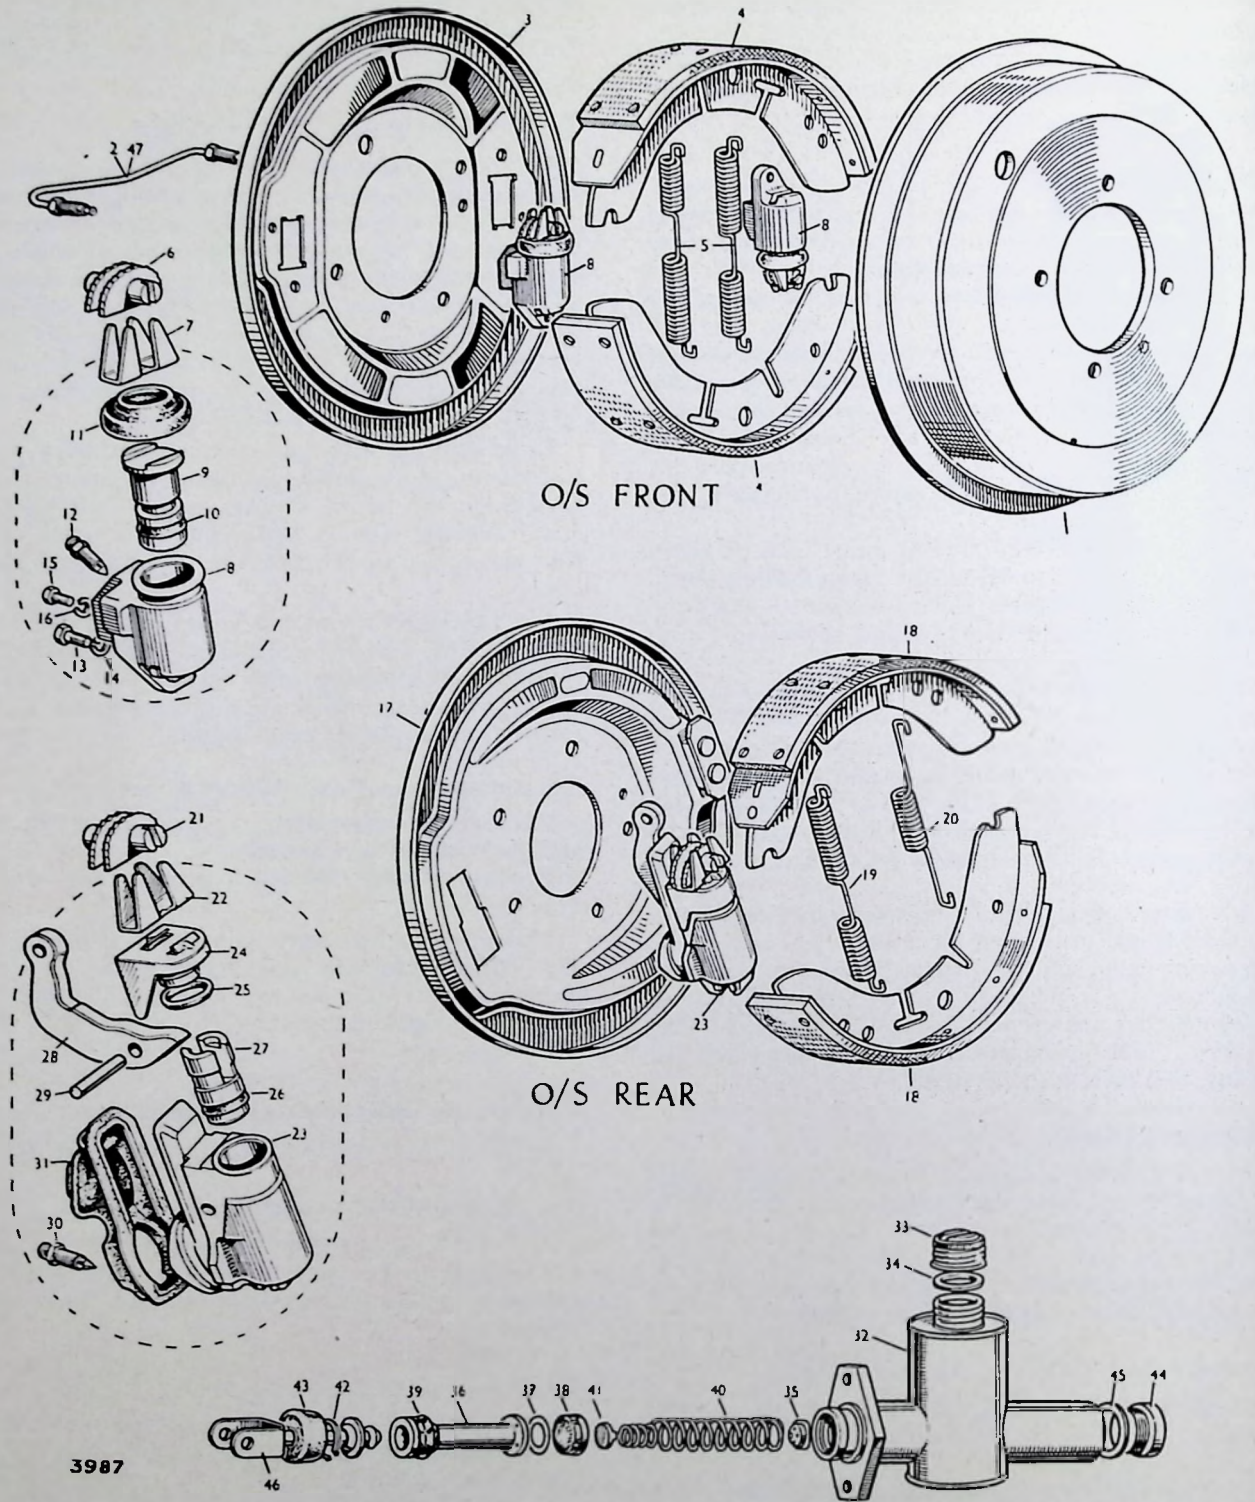

FIG. 2.—Exploded view of the brake components.
Note.—A groove is formed round the edge of the clutch master cylinder outlet plug (see item 44 in Fig. 2.) This identifies it from the brake master cylinder which has no groove. The master cylinders are not interchangeable owing to the fact that no valve is fitted to the clutch master cylinder.
KEY TO FIGURE 2: